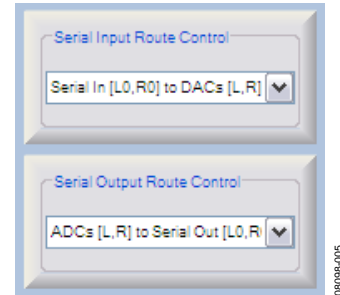

Figure 5. Serial Input/Output Route Controls
- In the **DSP Registers** tab, the serial input route control and the serial output route control settings should be set as shown in Figure 5.